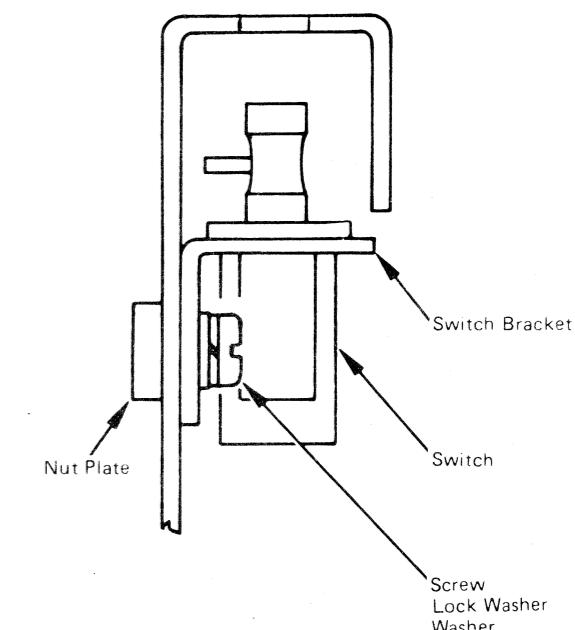
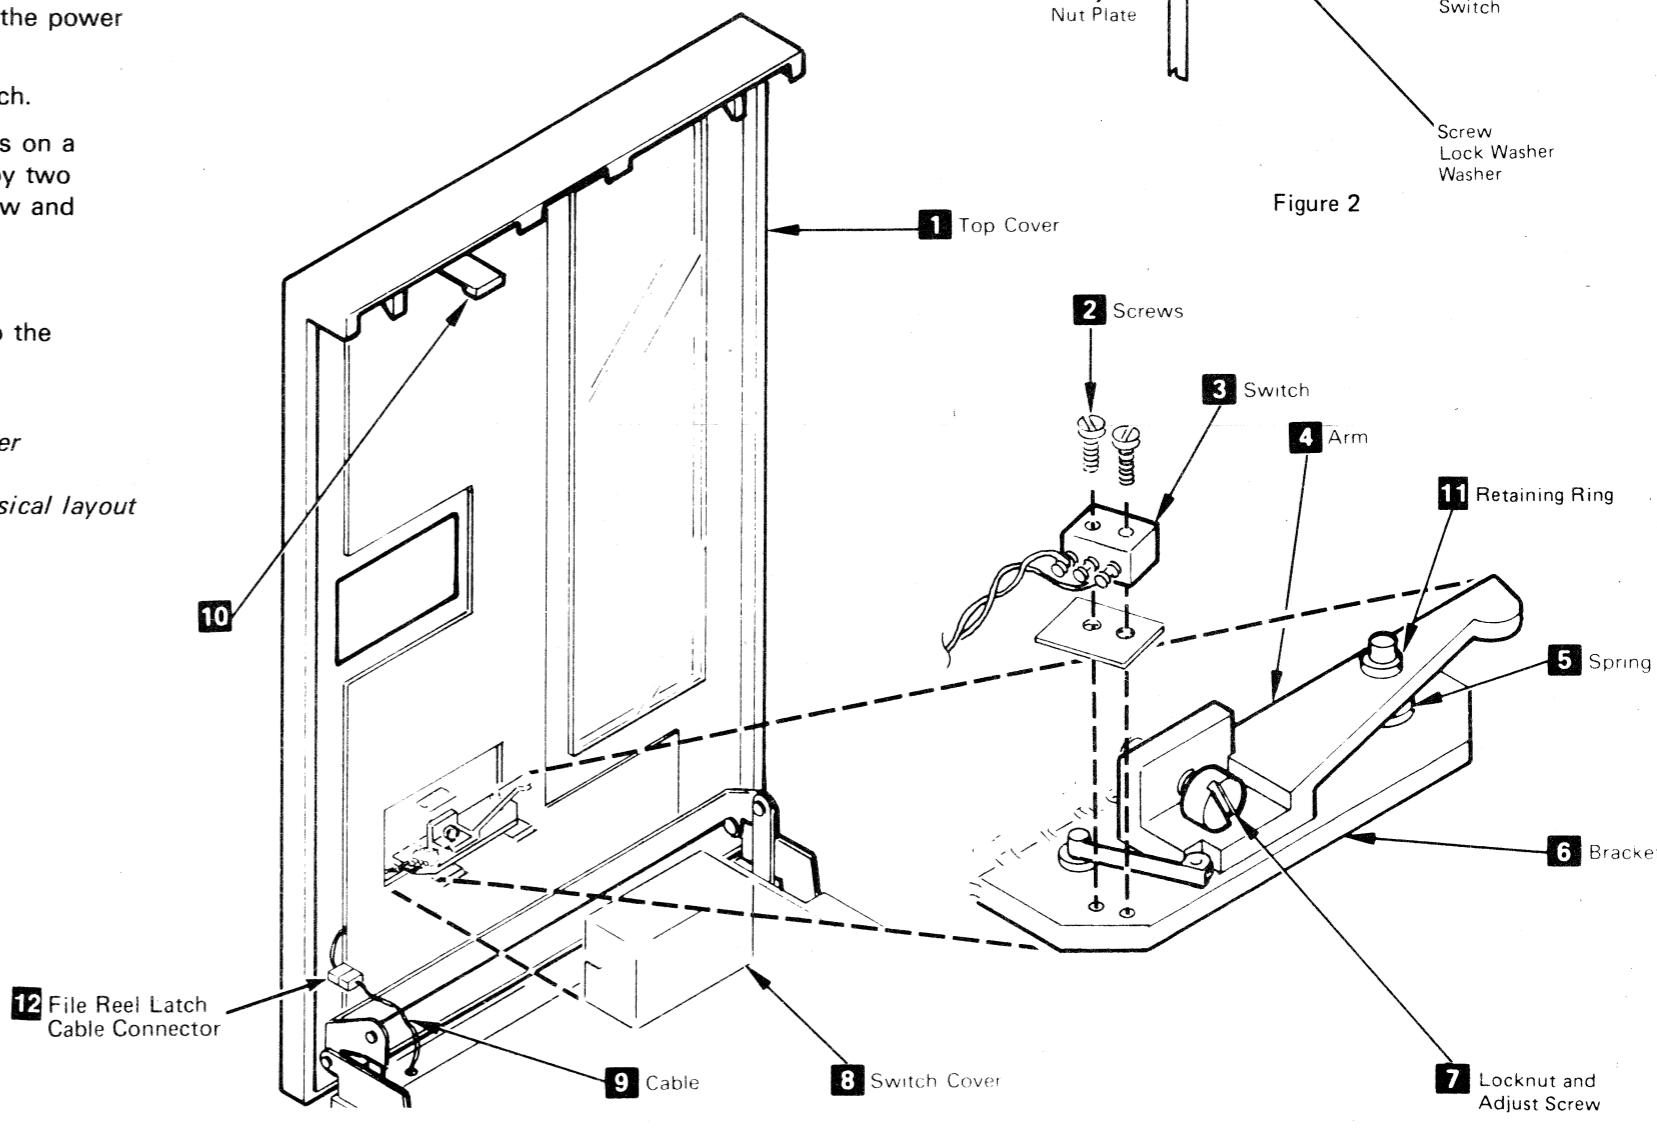

Figure 2
Figure 1
2. See Figure 2 and CARR 181 for the physical layout of your Top Cover Interlock Switch.
5. Adjust the switch (Figure 2) so it transfers but cannot be bottomed by the top cover switch actuator arm **10**, (Figure 1).